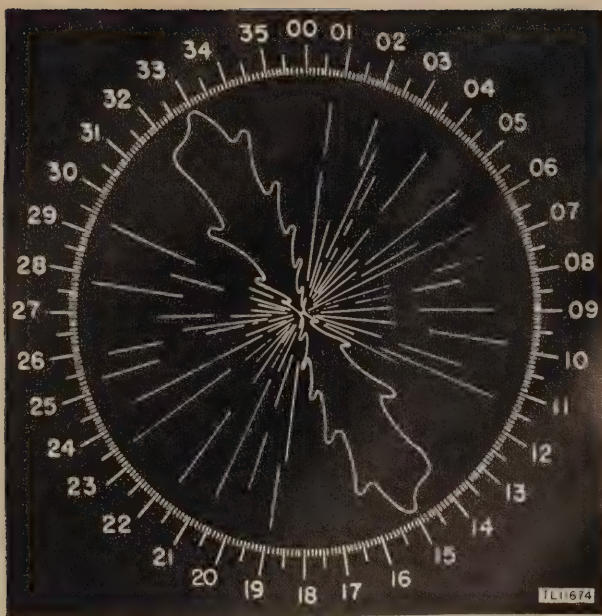

Figure 110. Bearing indicator pattern, relatively weak modulated signal.
(5) *Weaker modulated signal* (fig. 110). For weaker signals the SENSITIVITY control must be advanced, the noise increases. Azimuth bearings taken from this type of pattern are not as dependable as those obtained with stronger signals.